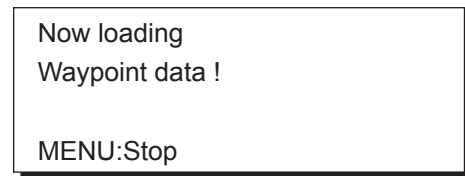

Figure 8-18
- 5) Press the **NU/CU ENT** key. The message shown in Figure 8-18 appears.